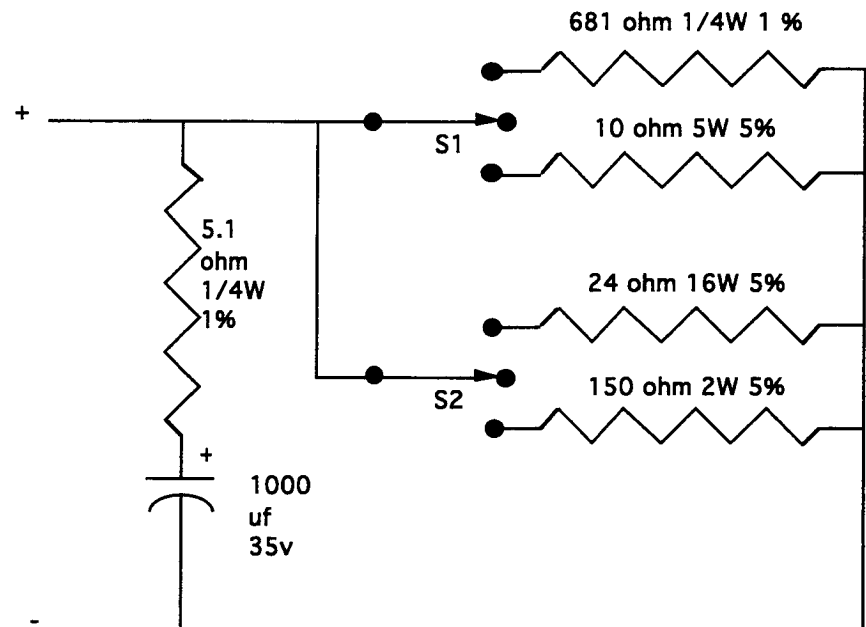

Figure 3-8. Battery Charger Test Circuit
A test fixture may be built from the schematic shown in Figure 3-8 to make testing and adjusting the power supply easier. Except for the switches, these parts should be available from the list shown in Table 3-3.
2. Attach a 681 ohm load and a 5.1 ohm, 1000  $\mu$ f combination in parallel with the voltmeter as shown in Figure 3-8.